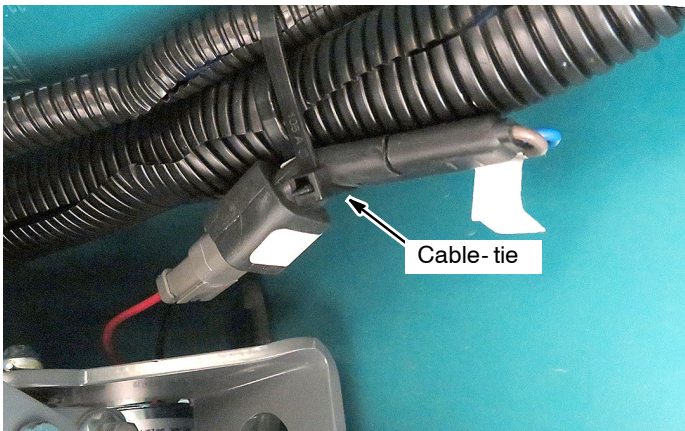

Fig. 25
24. Secure the connectors to the main wire harness with a cable-tie as shown (Figure 25).